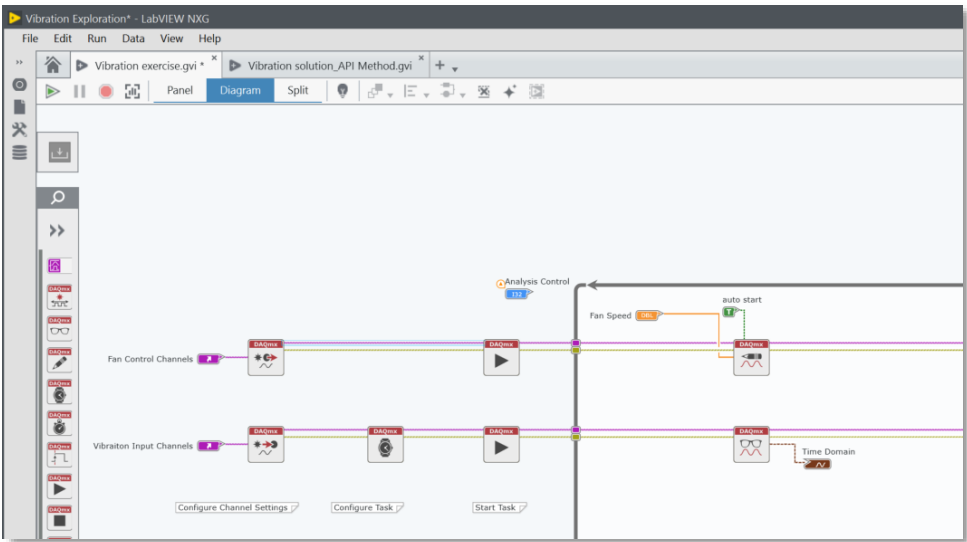

Figure 7-24 The DAQmx API will always follow the same basic order of operations, regardless of hardware used or measurement type.
6. Continue to place the following VIs and wire their task and error wires together as shown in Figure 7-24: